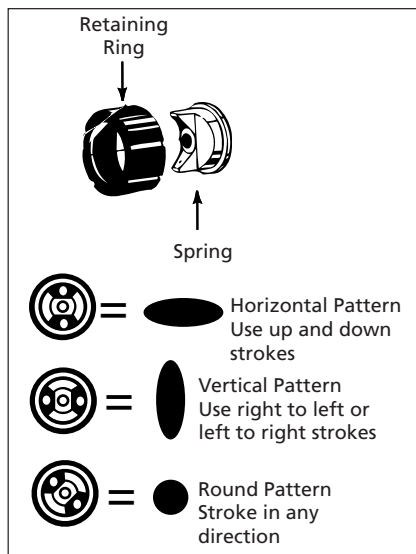

Figure 12 - Adjusting The Spray Patterns "Type"
- To adjust the spray pattern "type", turn the air cap to the desired pattern position (See Figure 12).